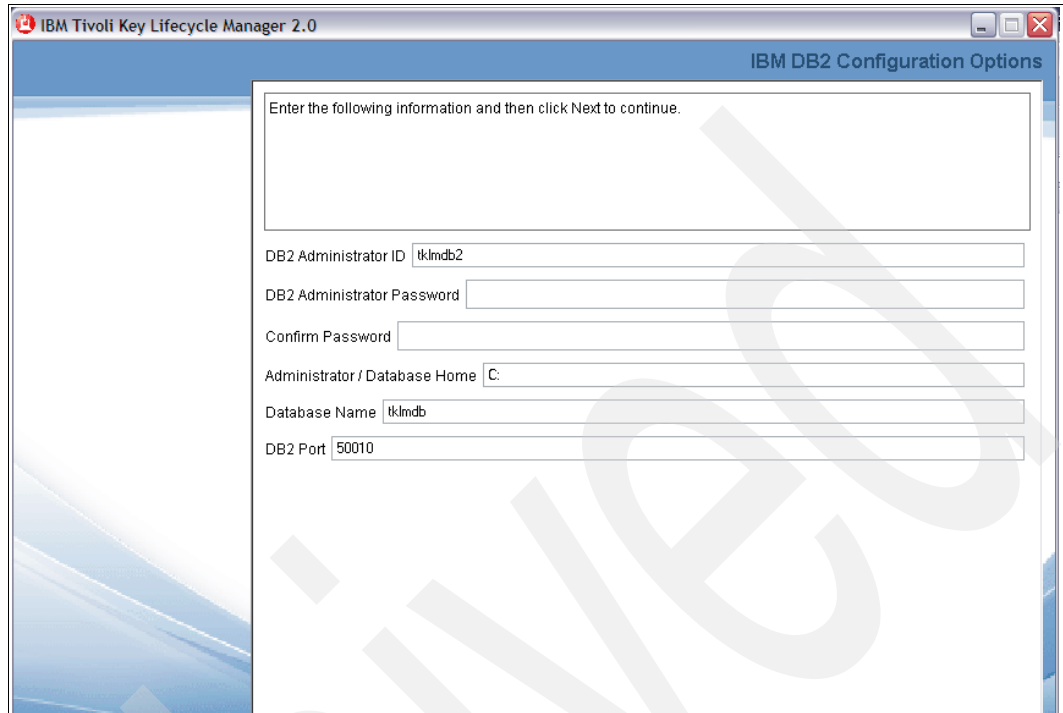

Figure 6-5 TKLM\_v2\_DB2\_pw
5. The DB2 configuration options screen is displayed. Enter the appropriate information in all required fields (Figure 6-5). Click **Next**.